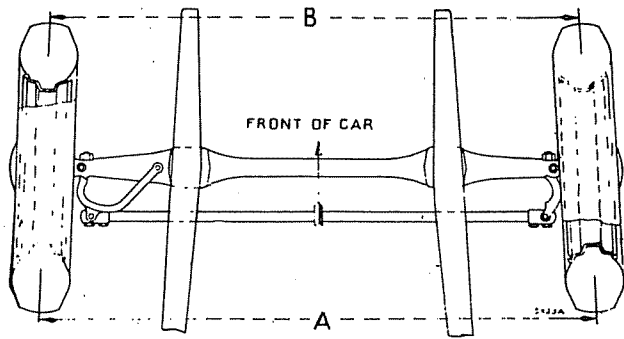

Fig. 14—Actual Front Wheel Toe-in Measurements.
Toe-in is the amount (in fractions of an inch) that the front wheels are closer together at the front than they are at the back, as viewed from the top of the truck. (Figure 14).
(3) Actual toe-in measurements should be taken at hub height, between two points on the centre of the tread at the rear of the tyres (Figure 14).